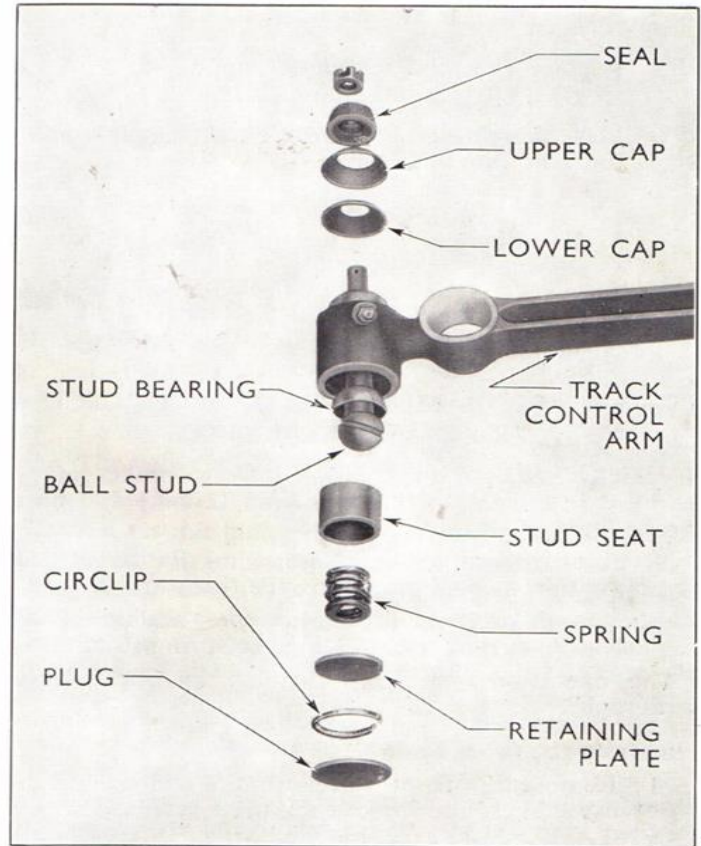

Fig. 300
- 3 Prise out the circlip and remove the tool, spring retaining plate, spring, stud seat, stud and stud upper bearing (see Fig. 300).